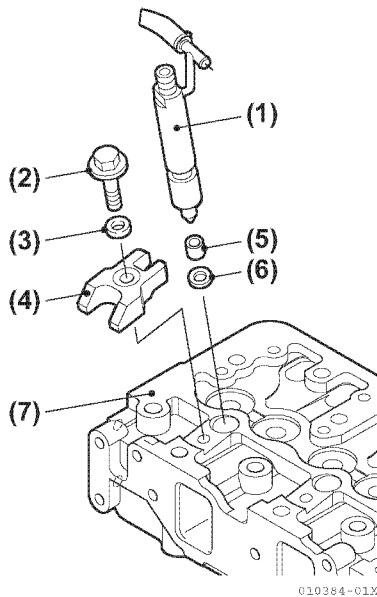
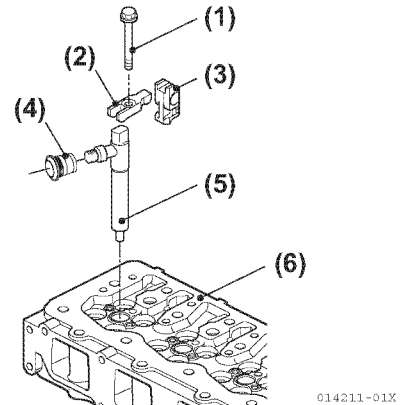

Figure 6-11
Figure 6-12
2. Install new gasket (Figure 6-11, (6)) on tip of injection nozzle (Figure 6-11, (1)) and (Figure 6-12, (5)).
3. Place the retainer (Figure 6-11, (4)) for 3JH4E or (Figure 6-12, (3)) for 4JH4-TE and 4JH4-HTE on the injection nozzle as shown.
4. 4JH4-TE and 4JH4-HTE: Install the pipe seal (Figure 6-12, (4)).
6. Install bolt and washer (Figure 6-11, (2, 3)) and tighten to 26 N·m (19.2 in.-lb).